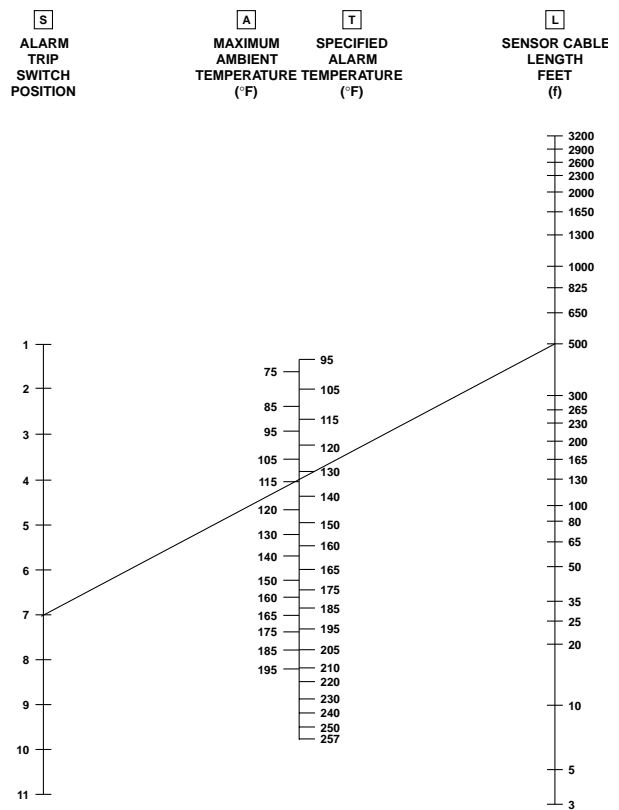

Figure 2. Example for Type "T" Cable
1. In Figure 2, a straight line is drawn from the 500 ft. (152 m) mark on Scale L through the 115°F (46°C) mark on Scale A. The line crosses Scale S at approximately switch position 7.